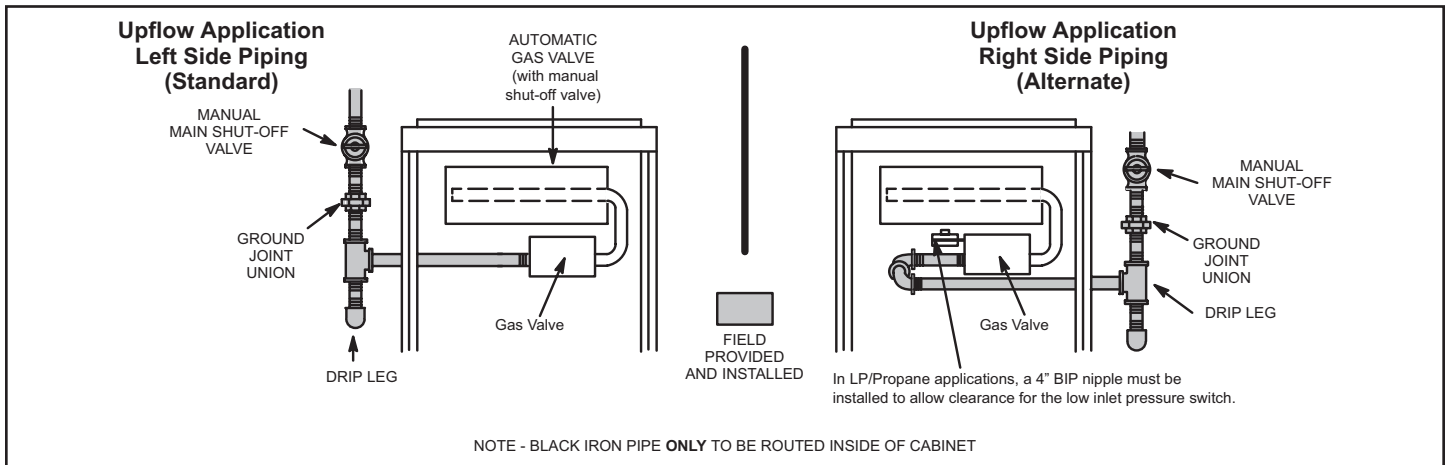
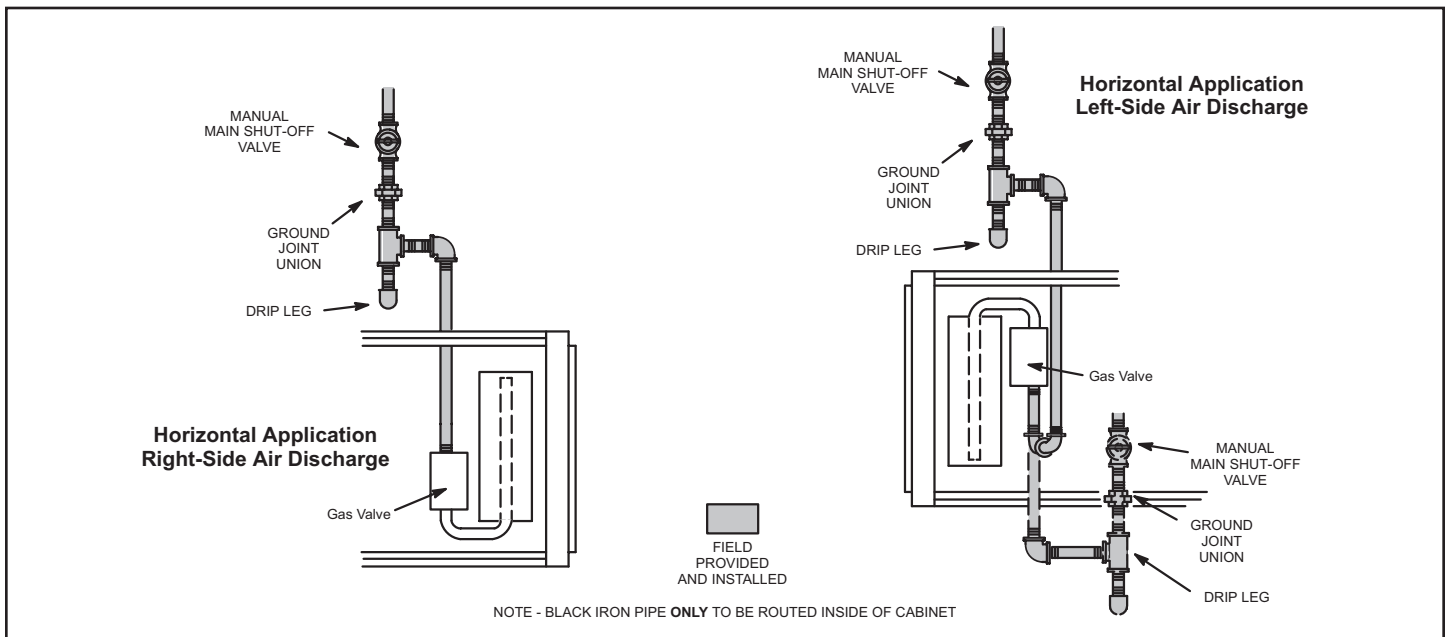

Figure 42. Upflow Applications Possible Gas Piping Configurations
Figure 43. Horizontal Applications Possible Gas Piping Configurations
1. Gas piping may be routed into the unit through either the left or right hand side in upflow applications, and either the top or bottom in horizontal applications. Supply piping enters into the gas valve from the side of the valve as shown in Figure 42 and Figure 43.
3. Gas piping must not run in or through air ducts, clothes chutes, chimneys or gas vents, dumb waiters or elevator shafts. Center gas line through piping hole. Gas line should not touch side of unit. See Figure 42 and Figure 43.